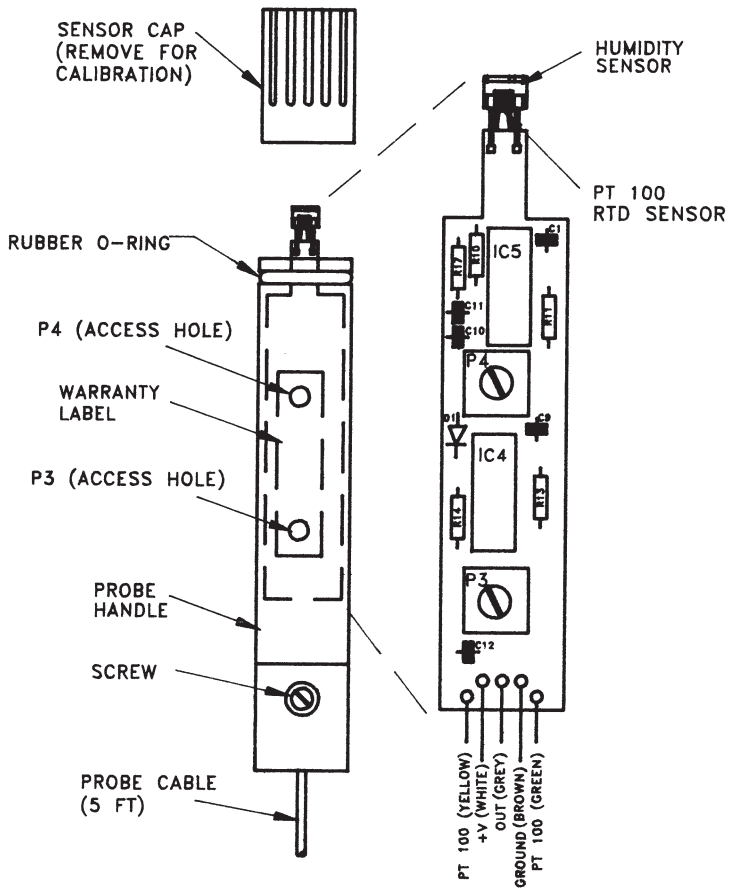

Figure 8-1 RH-20/RH-21 Probe
Refer to Figure 8-1 when reading the following instructions. Find the two  $\frac{5}{32}$  inch access openings located at opposite ends under the warranty label. Run your finger along the label and feel for the depressions. Pop openings in the label (at the depressions) big enough to access the pots with a small screw driver.
3. Refer to Figure 8-1 for the location of the humidity calibration pots in the probe. Adjust the potentiometer P4 until the display reads 11.0 RH. If it is not possible to adjust the display to be 11.0 using P4, contact the OMEGA Engineering Customer Service Department.
- Solder the cable onto the printed circuit board. (See Figure 8-1). Reassemble the probe case and sensor cap.